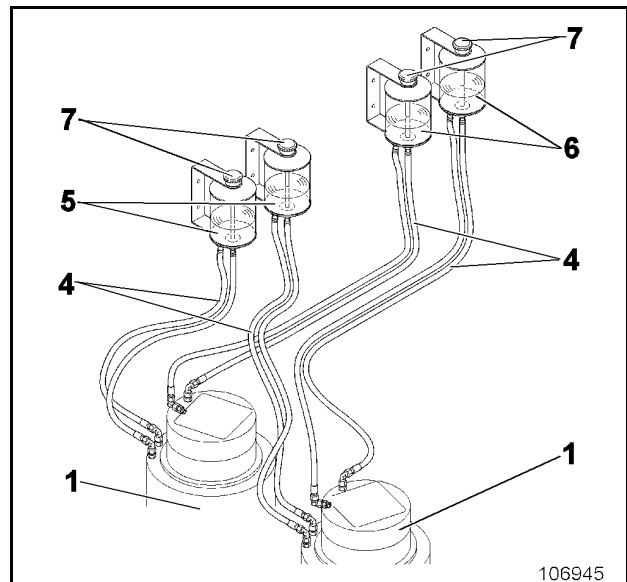

Fig. 3-123:
- Unscrew caps (7, Fig. 3-123:) from expansion reservoirs (6). Oil will escaping faster then.
- Fill in new gearbox oil into expansion reservoirs (6, Fig. 3-123:).
The gearbox is vented through the caps of the expansion reservoirs (7, Fig. 3-123:).